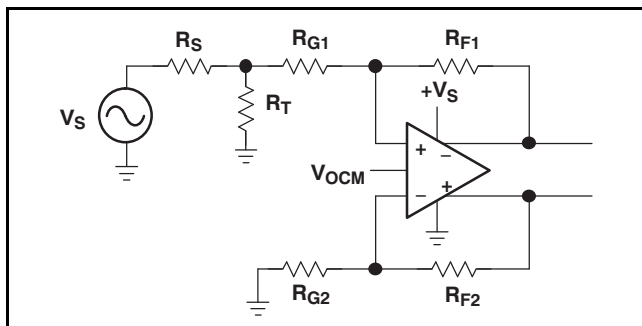

**Figure 98. Fully Differential Amplifier Pin Diagram**
Fully differential amplifiers are typically packaged in eight-pin packages, as shown in Figure 98. The device pins include two inputs ( $V_{IN+}$ ,  $V_{IN-}$ ), two outputs ( $V_{OUT-}$ ,  $V_{OUT+}$ ), two power supplies ( $V_{S+}$ ,  $V_{S-}$ ), an output common-mode control pin ( $V_{OCM}$ ), and an optional power-down pin (PD).
A standard configuration for the device is shown in Figure 98. The functionality of a fully differential amplifier can be imagined as two inverting amplifiers that share a common noninverting terminal (though the voltage is not necessarily fixed). For more information on the basic theory of operation for fully differential amplifiers, refer to the Texas Instruments application note *Fully Differential Amplifiers*, literature number SLOA054.